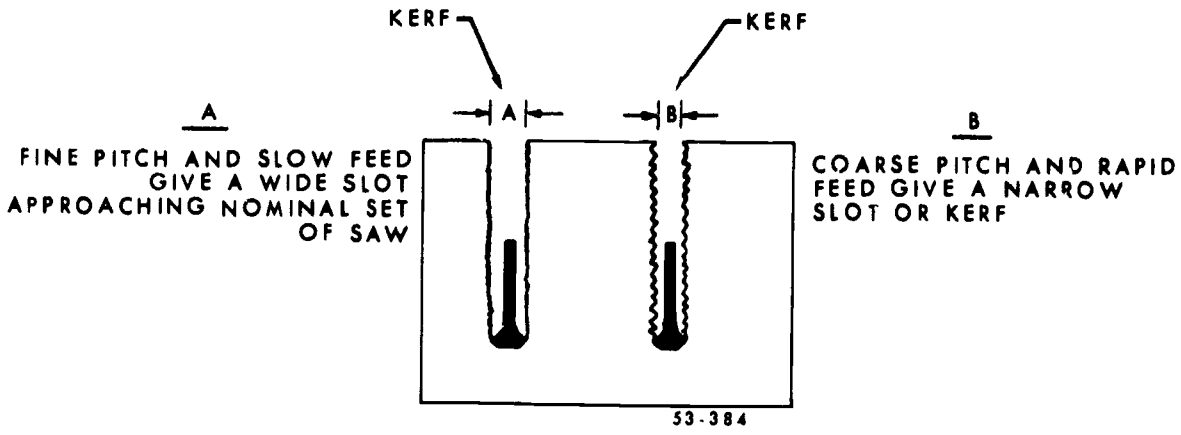

Figure 3-7. Saw kerf.
- **Kerf.** The kerf is the slot produced by the saw band. The kerf width depends upon the rate of feed and the saw pitch in addition to the amount of set. Since the kerf consists of a series of grooves, the distance between the grooves varies with the pitch and rate of feed. As the distance between the grooves increases, the peaks become higher. The result is a narrower slot or kerf. The corners of the saw teeth cut a groove equal to the measurement over the set, but the kerf width is the distance between the peaks, as shown in figure 3-7.